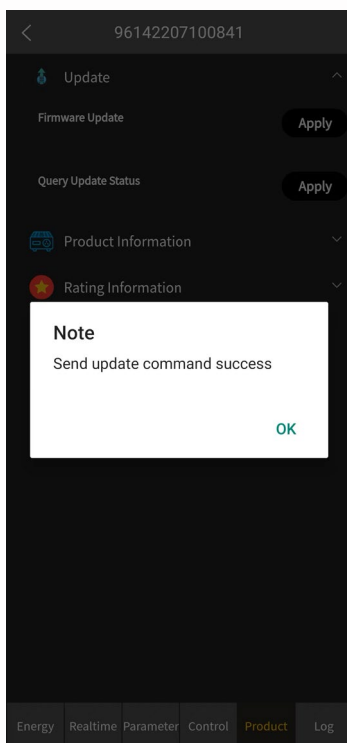

Figure 2
- (1) If the inverter is updating, the query result will be like that shown in Figure 2.